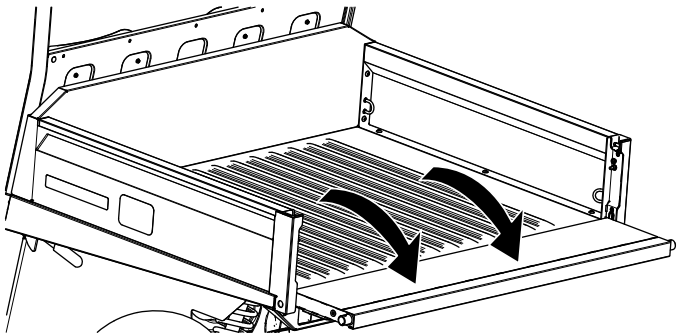

Figure 82
3. Lower the tailgate until it is flush with the bottom of the cargo bed (Figure 82).